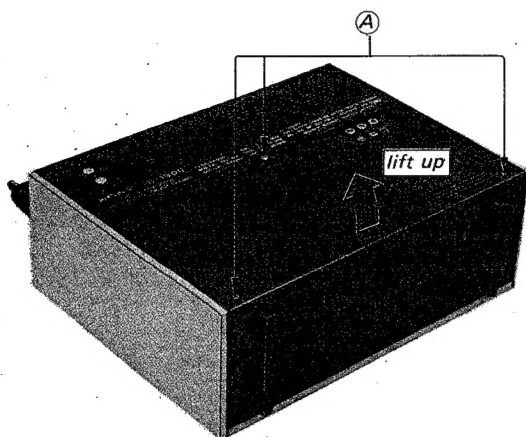

Fig. 2-1 Rear cabinet removal
2. Remove the three screws labeled **(A)** in Fig. 2-1.